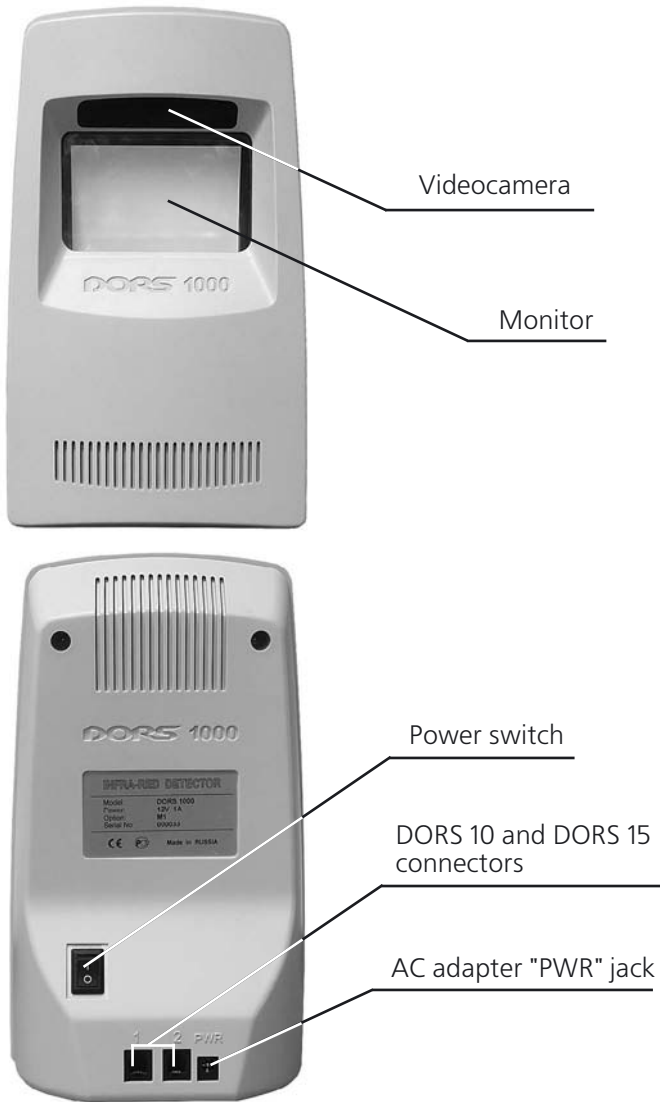

Fig. 1
5. If the device is not in use for a long time, the power switch should be set to the **"OFF"** position (Fig.1).
a. Connect the power adapter to the device via the AC adapter "PWR" jack (Fig.1).